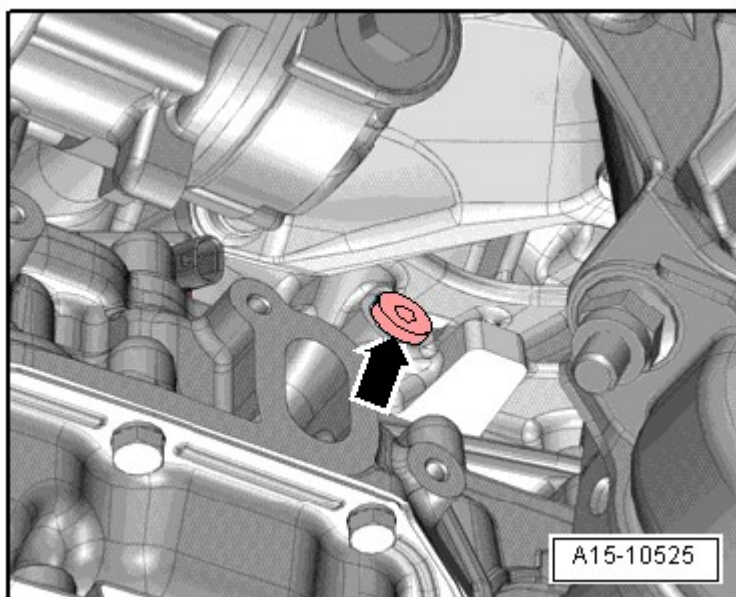

Fig. 92: Identifying Locking Bolt
-- Install the "TDC" marking locking bolt. Refer to **Fig. 92**.